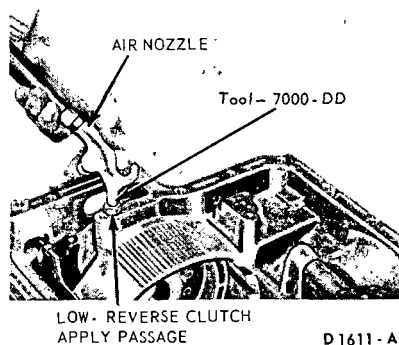

FIG. 38—Removing Low-Reverse Clutch Piston
22. Remove the low-reverse clutch piston from the case as shown in Fig. 38.